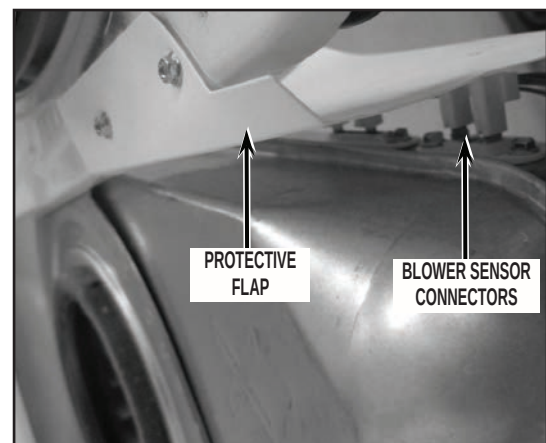

FIGURE 37
6. At the bottom of the front bulkhead is a lower protective flap. Verify flap is laying above the blower sensor connectors as shown in *Figure 37*.